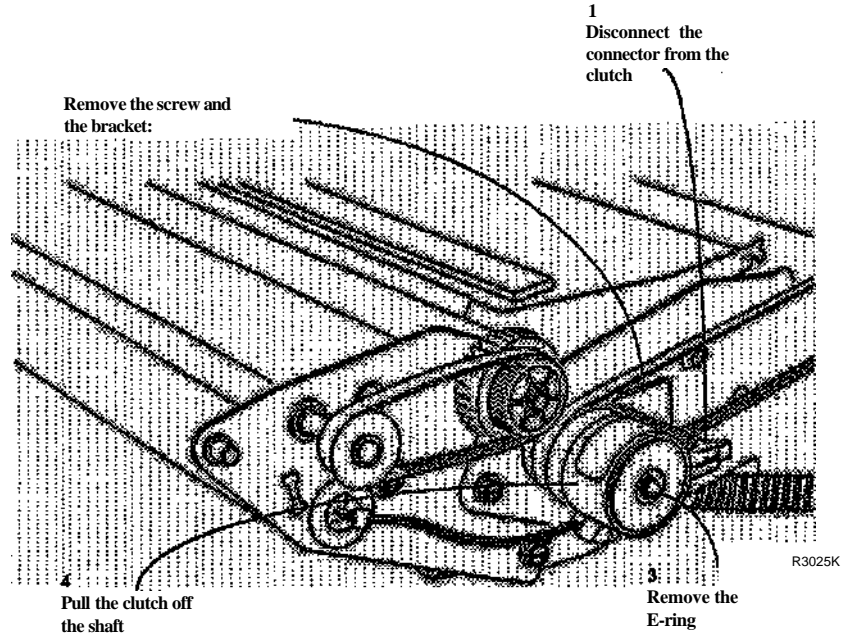

Figure 1. Removing the Cut Sheet Media Feed Clutch
3. (Figure 1): Remove the Cut Sheet Media Feed Clutch.